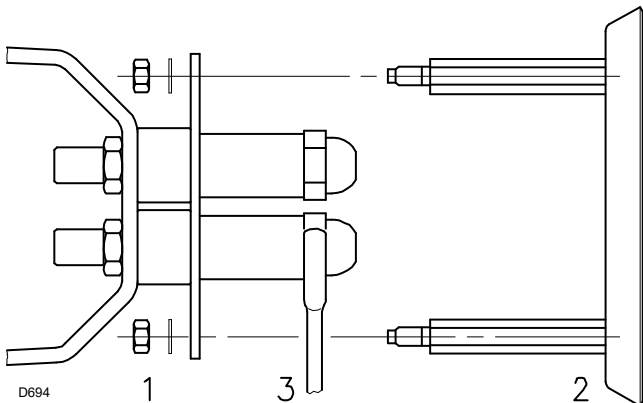

Fig. 13
- Remove the nuts 1)(Fig. 13) and the disk 2).
- Use spanner 3)(Fig. 13) to change the nozzles.